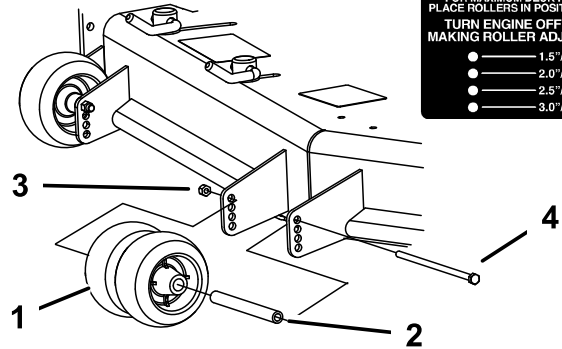
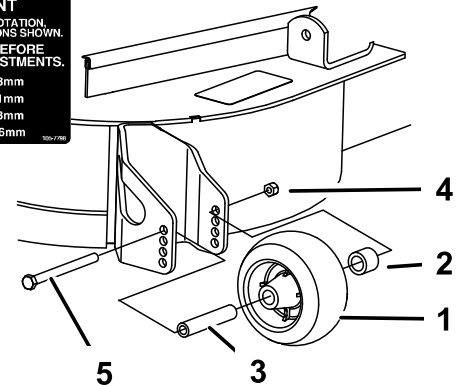

**Figure 27**
**Figure 28**
3. Adjust the anti-scalp rollers as shown in Figure 27, Figure 28, and Figure 29.